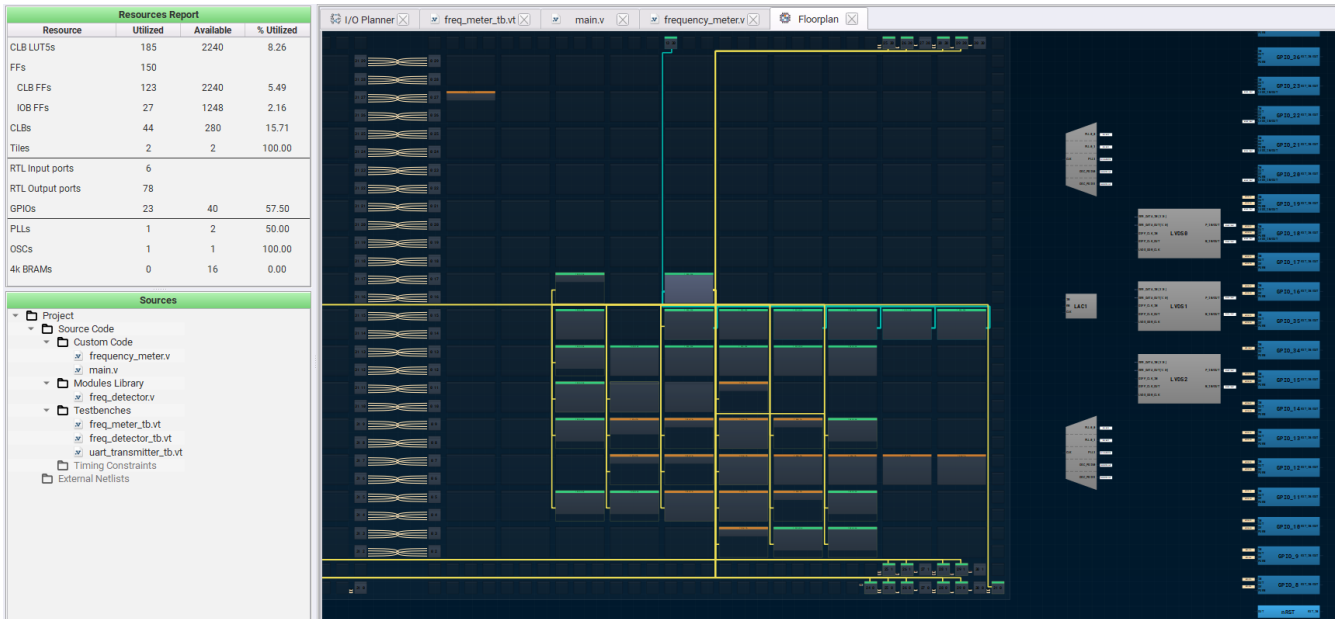

Figure 3. Distributed RAM CLB Utilization
The resources that are used when designing the frequency meter can be seen under the Floorplan and the Resources Tab in the toolbar on the top of the window (Figure 3). The Floorplan highlights the CLB that are been used in this design. When the user clicks the CLB box, the software shows the wires (blue/yellow) connecting multiple CLB blocks.
9. Click on the Floorplan tab and see the CLB utilization (Figure 3). Press the Ctrl and the mouse wheel to zoom-in. Confirm that the IOs selected in the IO Planner.